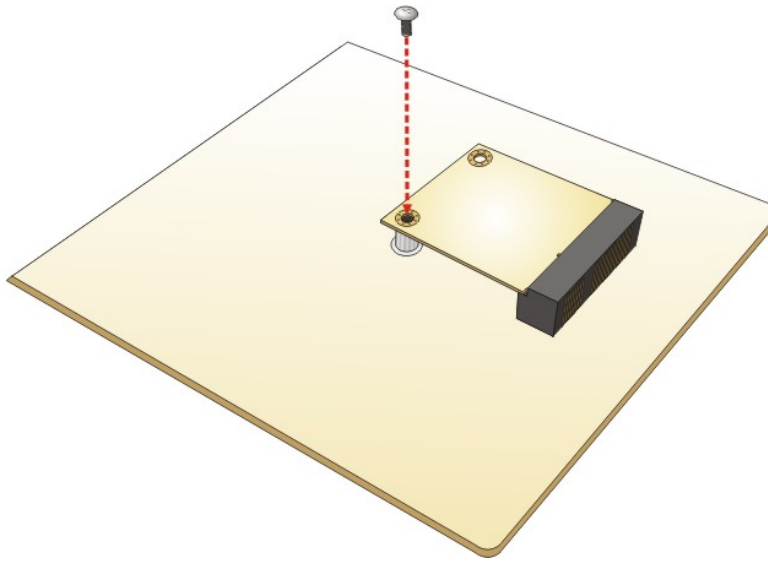

Figure 4-7: Securing the iRIS-1010 Module
Step 4: **Secure the iRIS-1010 module.** Secure the iRIS-1010 module with the retention screw previously removed (Figure 4-7).